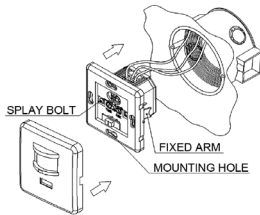

Fig.2
- If you want to install it in circular hole, put the sensor into the hole and tighten the splay bolt on both sides (refer to figure 2). If you want to install in quadrate hole, put the